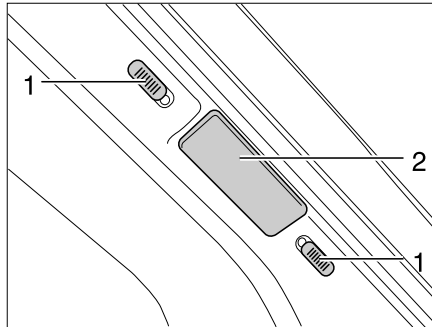
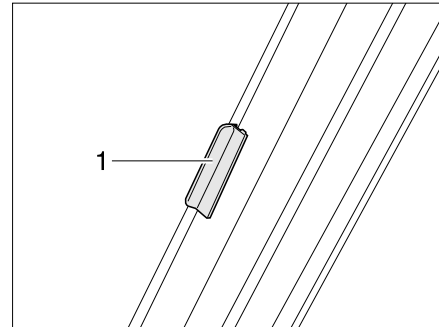

Fig. 29 Lock for the Roman shade of the windscreen
Fig. 30 Lock for the Roman shade of the windscreen (model I)
- Use the handle (Fig. 29,2 and Fig. 30,1) to pull the two halves of the Roman shade for the windscreen outwards as far as they will go.
- Push the locking knobs (Fig. 29,1) upward or downward. If the red dot is visible, the lock is open.